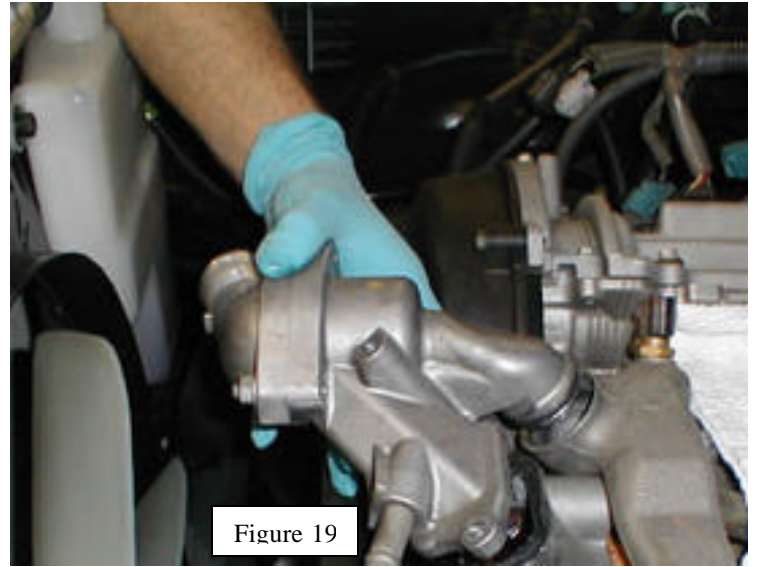

Figure 19
37. Disconnect water bypass hose from the water inlet housing. Remove the 2 bolts that secure the water inlet housing to the water pump, and remove water inlet housing (Figure 19).